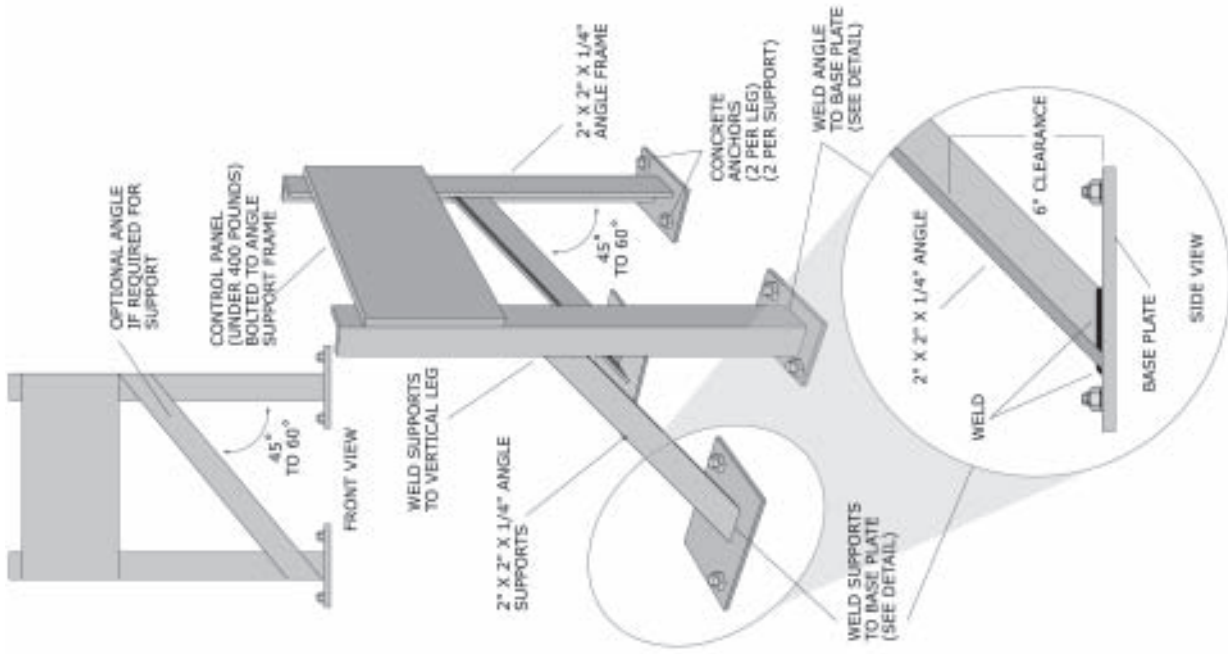

Figure 158: Angle assembly support from floor.
- Vertical angles or strut extending down to the floor with angles slanted back to the floor as shown in Figure 156 (page 131). This is the typical method. Details are shown in Figure 158 (page 132).
- To attach bases for angle floor-mounted supports, see Figure 158 (page 132).